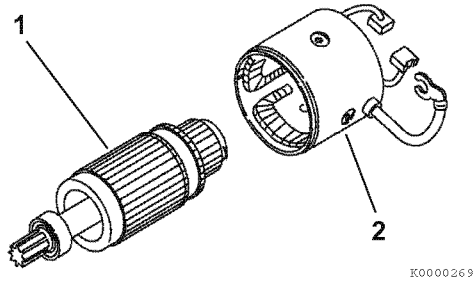

Figure 11-30
7. Carefully install the armature assembly (1, **Figure 11-30**) into the field coil assembly (2, **Figure 11-30**).